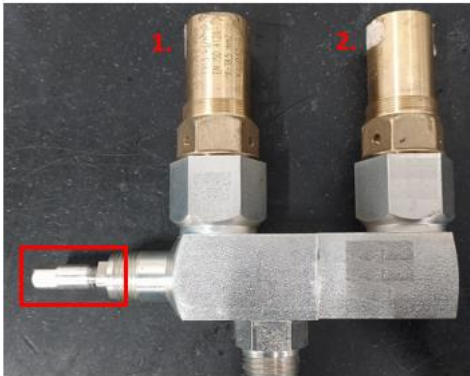
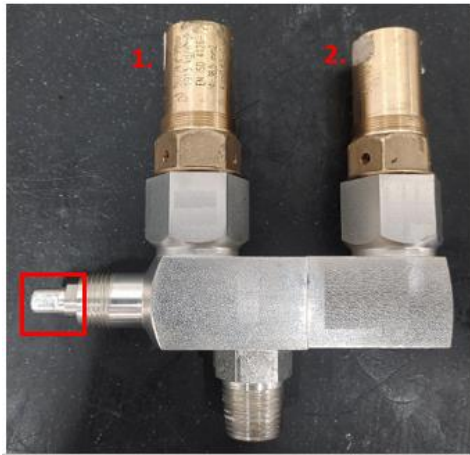

Figure 58: Changeover valve – Shaft in open position
Figure 59: Changeover valve – Shaft in closed position
The changeover valve must be in fully open position (spindle completely out) during unit operation as shown in **Figure 58**.
- Make sure that the changeover valve on the leak side is closed. **Figure 58** shows the configuration with PRV 1 closed while **Figure 59** shows the configuration with PRV 2 closed.